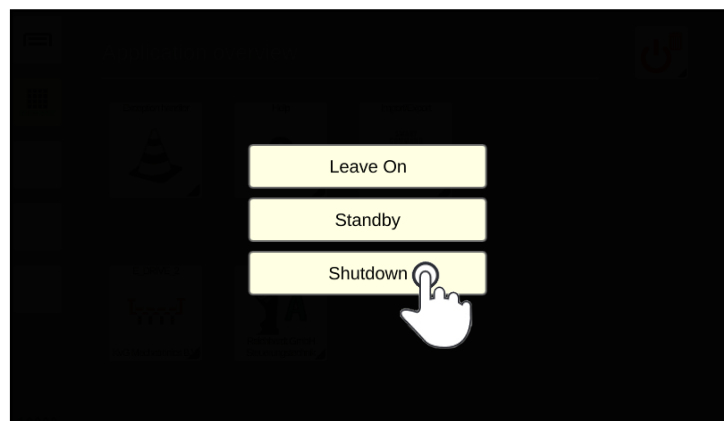

Fig. 79: Shutting down the SMART COMMAND terminal 7"
3. Tap "Shutdown" (see Fig. 79).